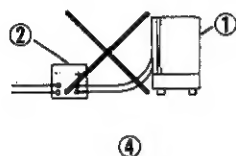

Fig. 3
- 7.7. Never use a battery charger, transformer/rectifier, battery eliminator or AC/DC converter to supply your Engel refrigerator. Such equipment can, under certain circumstances, deliver current at a voltage which may damage the inverter. It is in order to use these items always provided that the battery is connected in parallel between the charging equipment and the refrigerator. (See Fig.3)
⑧ APPLICATION of ENGINE GENERATOR